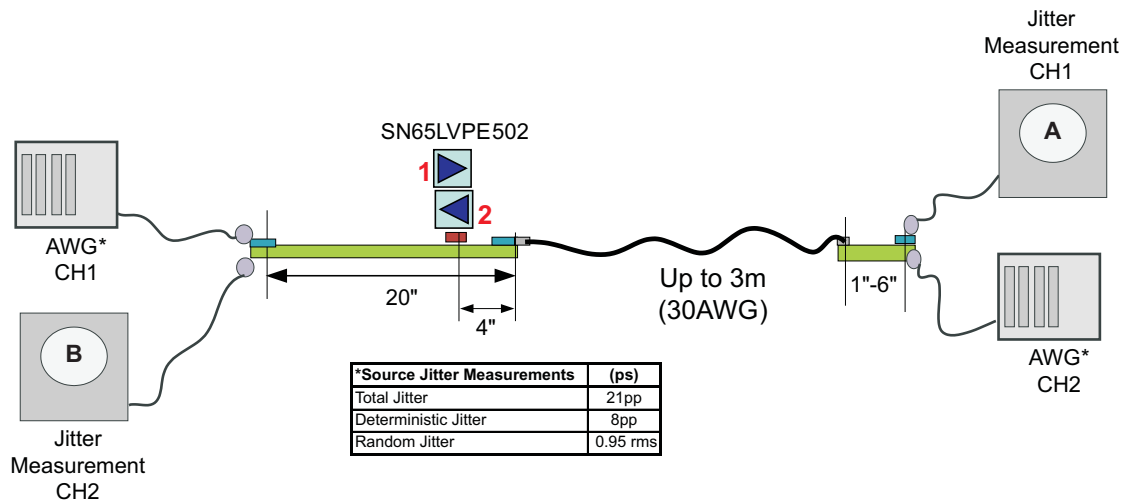

Figure 8. Jitter Measurement Setup
(1) Includes Rj at 10^{–12}
(2) Measured at the end of reference channel in Figure 8 with K28.5 pattern, V_{ID}=1000mVpp, 5Gbps, –3.5dB DE from source.
(3) UI = 200ps
(4) Rj calculated as 14.069 times the RMS random jitter for 10^{–12} BER